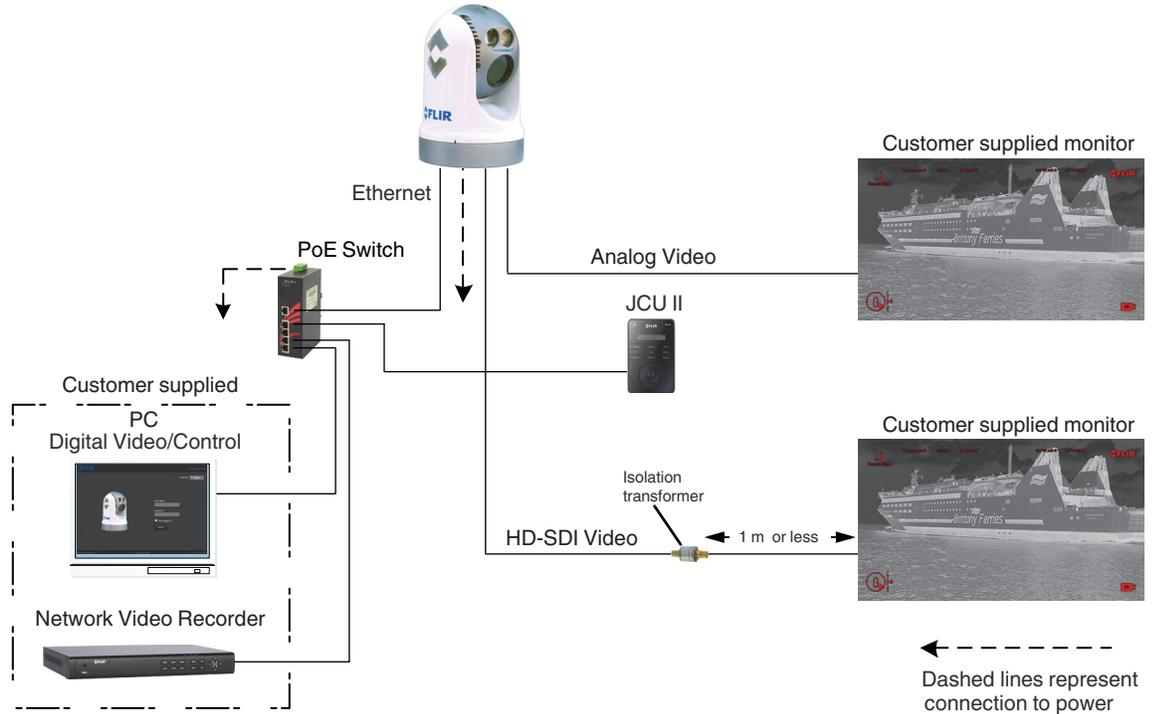

Figure 2-2: System with Video Recorder
The JCU II selects which video output to view (IR or visible) on the monitor and to control the camera configuration using the OSD menus. If two JCU II are used (see Figure 2-2), typically, they are installed in different locations aboard the vessel, each with a monitor. They both can be switched on and enabled at the same time. The video to the monitor can be either the HD-SDI video signal or the composite analog video signal to match the customer supplied monitor. NMEA/serial data connections and digital IP video connections are not shown below.
3. Connect the camera Ethernet to the switch, as shown in Figure 2-2.